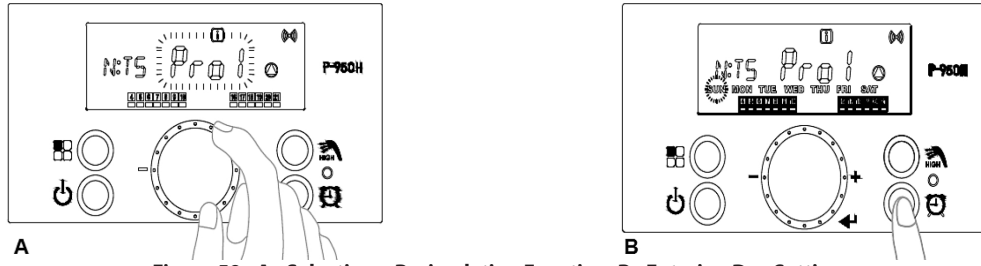

Figure 59 - A - Selecting a Recirculation Function, B - Entering Day Setting
- c. Turn the dial button at the "Pro1", "Pro2", "Pro3", or "PULS" screens to select a Recirculation Function. See Figure 59 A. Press the  button to select the mode.
- d. Press the  button to enter the day setting. See Figure 59 B.